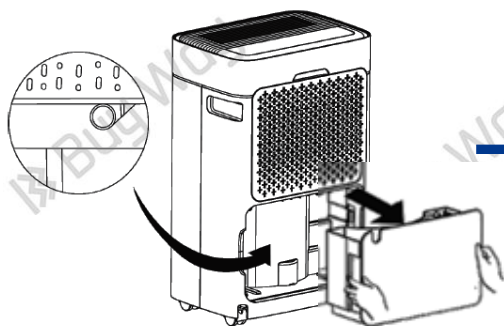

Fig.1
2. Carefully remove the water tank and locate the continuous drainage port on the back side of the device (fig.1).